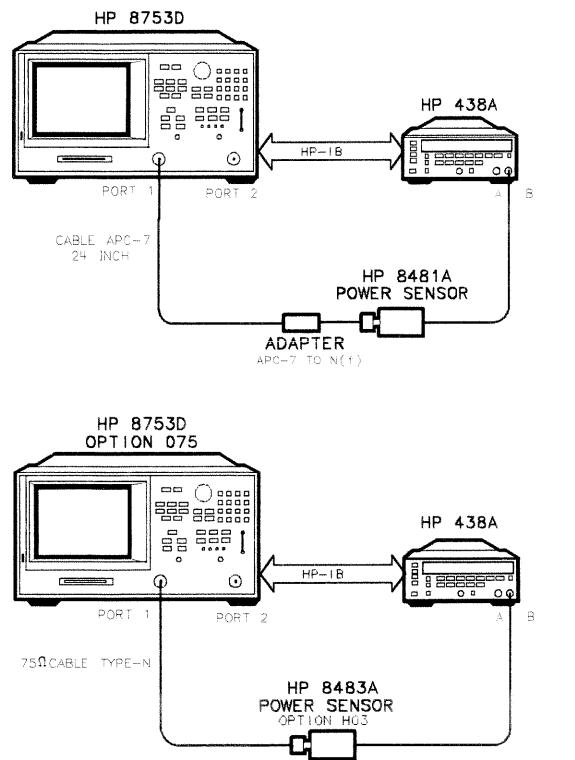

Figure 2-29. Setup for Power Meter Calibration on Test Port 1
44. Connect the equipment as shown in Figure 2-29.